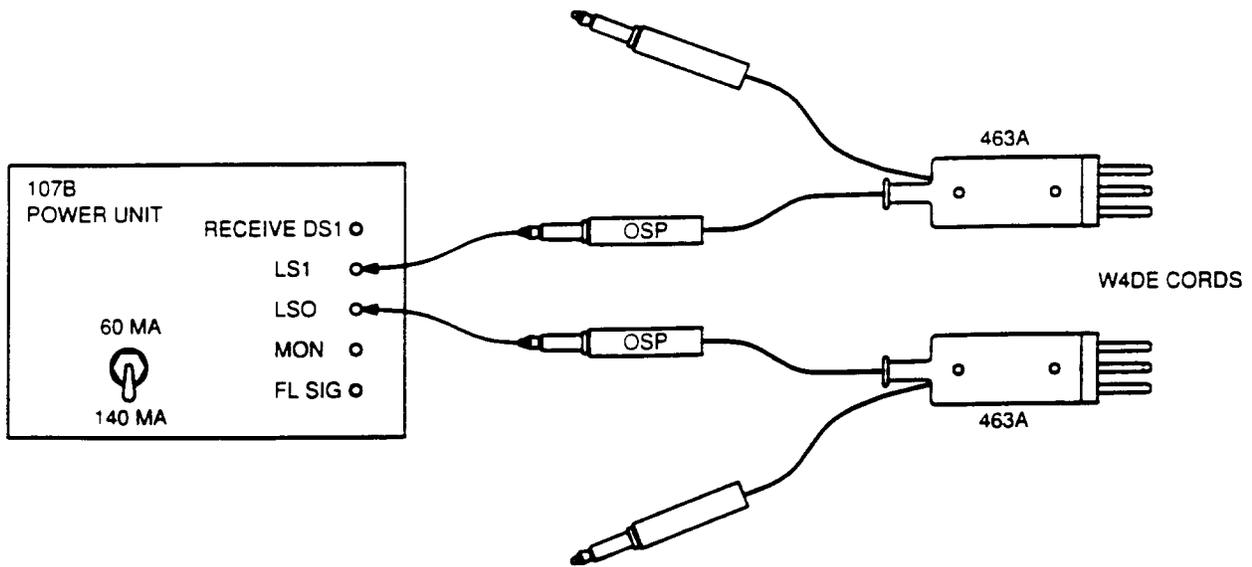

Figure 5—Fault Locating Equipment Connections to Test W4DE Cords For T1 Line Access
8. Make connections from 107B test set (315D, 415A-2, 25AD) to W4DE test cords. (See FIG. 5.)